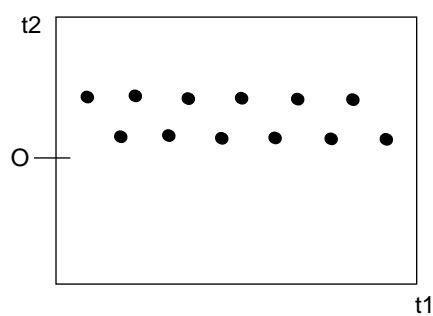

Figure 23. Echo Train After `groa` Adjustment
- c. Change the tilt by adjusting the `groa` parameter (in ± 0.01 unit steps). At this stage, you might see two parallel echo trains corresponding to the odd and even echoes respectively, as shown in Figure 23.